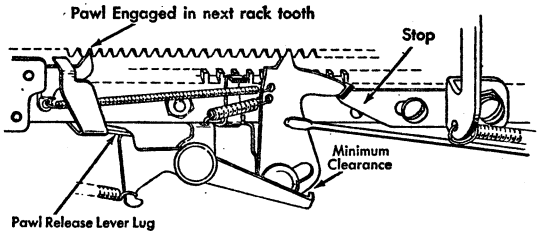

Figure 54. Backspace Interlock Adjustment
2. **THE PAWL RELEASE LEVER LUG** which contacts the backspace interlock is formed so that with the interlock at rest, the backspace pawl may be moved past it with a minimum of clearance (Figure 54).